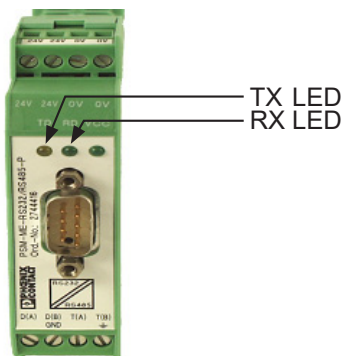

Fig. 8.1 RS-485 converter
- Is the RS-485 converter connected to the correct COM port? If connected correctly, the transmit LED (TX) (Fig. 8.1) should blink after measurement start to indicate that computer is sending data.